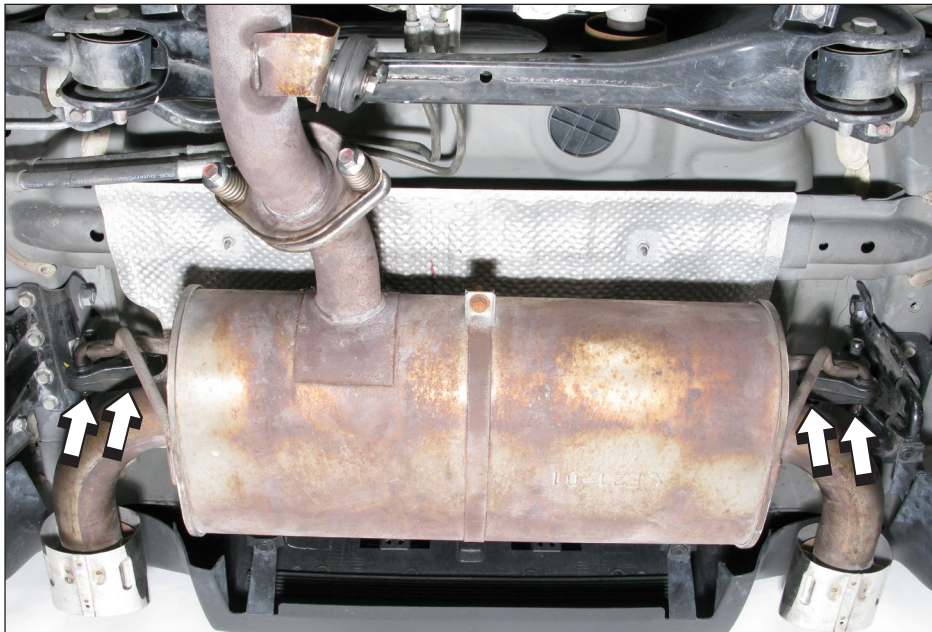

Figure 2
2. **For Slip-On and Evolution:** pull the muffler off the marked rubber brackets and remove it off the vehicle (Figure 2).